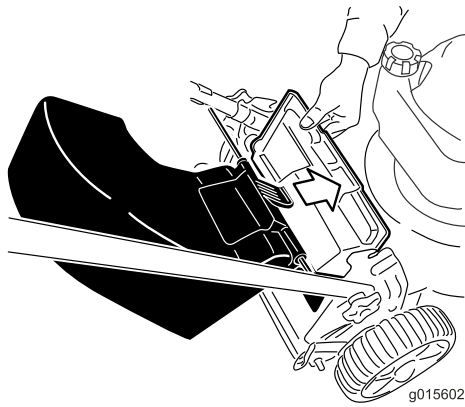

Figure 18
1. Lift up the rear deflector (Figure 18).
2. Insert the grass bag handle onto the notches on the handle brackets (Figure 18).